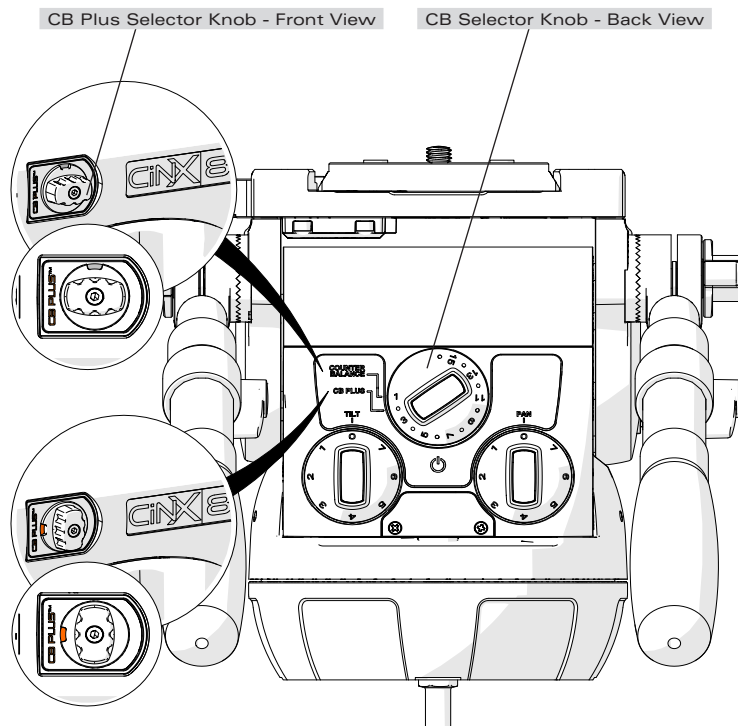

Fig. 9
- 4.3 Finer adjustments can be made by toggling the CB PLUS SELECTOR KNOB (Fig. 9).